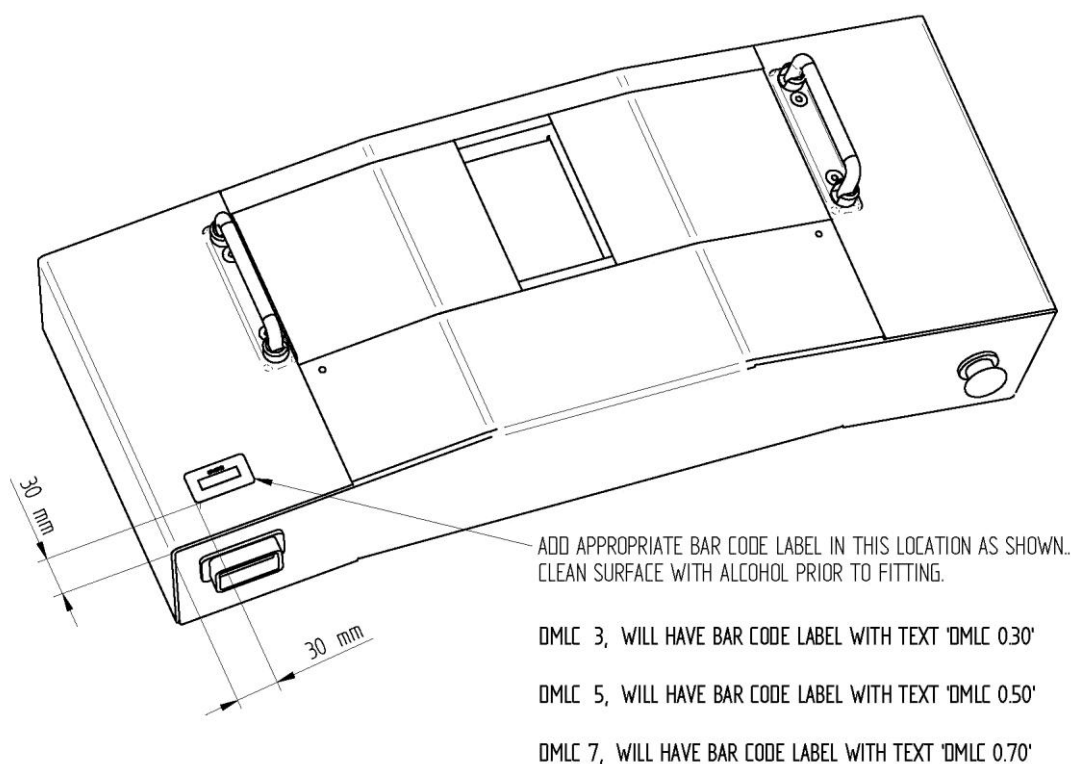

Figure 1: Label position
4. Attach the label in the correct position (see Figure 1).